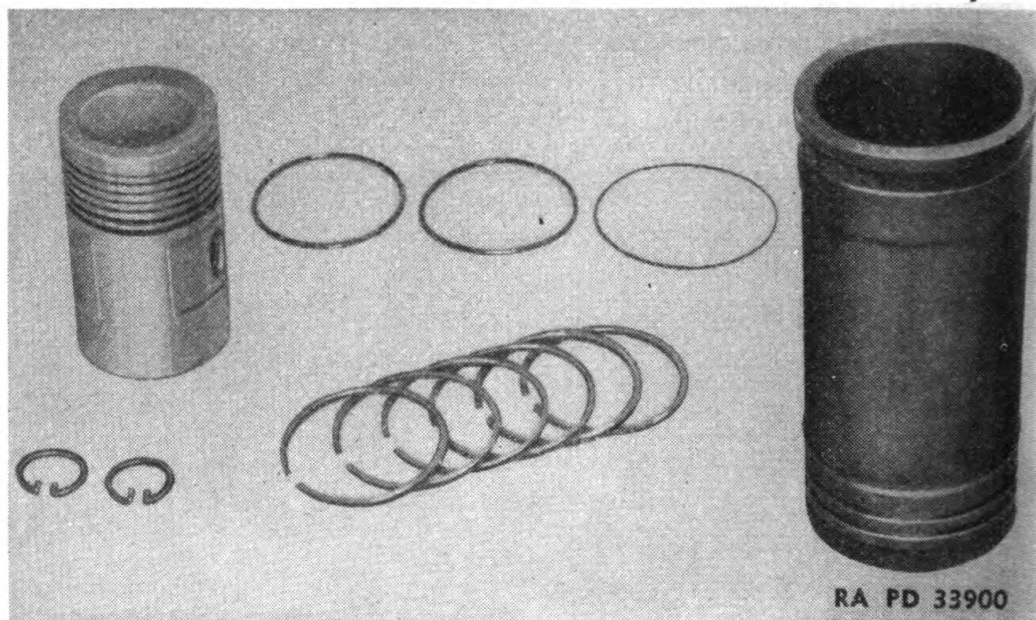

FIGURE 27.—Pistons, rings, and cylinder liner.
25. General.—Piston ring and cylinder liner wear usually results in loss of power, a smoky exhaust, loss of compression, and excessive oil consumption. (See fig. 27.)